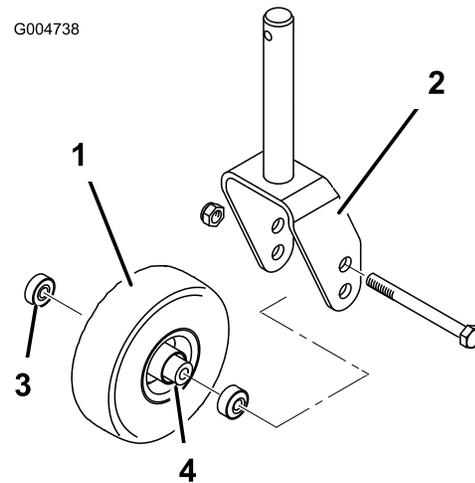
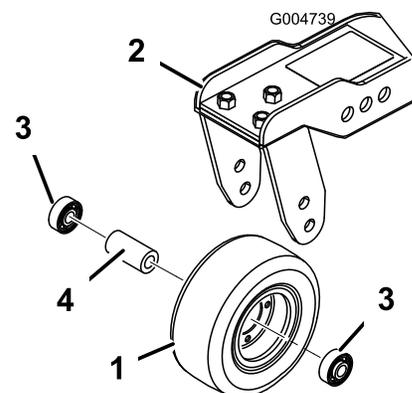

Figure 89
Figure 90
1. Remove the locknut from the bolt holding the castor wheel assembly between the castor fork (Figure 89) or the castor pivot arm (Figure 90). Grasp the castor wheel and slide the bolt out of the fork or pivot arm.
2. Remove the bearing from the wheel hub and allow the bearing spacer to fall out (Figure 89 and Figure 90). Remove the bearing from the opposite side of the wheel hub.